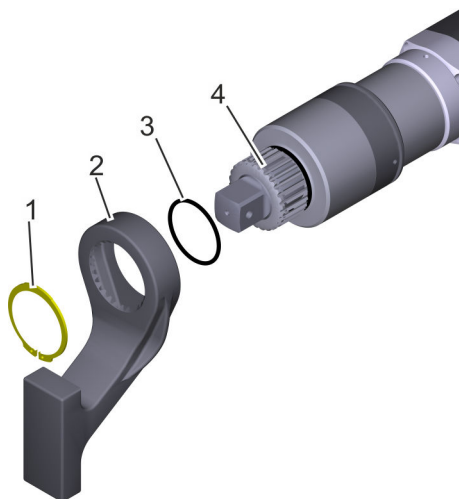

Fig. 11: Securing the reaction arm
Carefully slide the O-ring (Fig. 11/3) onto the serration (Fig. 11/4) on the nutrunner.
3. ➔ Push the reaction arm (Fig. 11/2) onto the serration.
- 4.** → Slide on the circlip (Fig. 11/1) with the aid of the circlip pliers (Fig. 12) and clamp it.